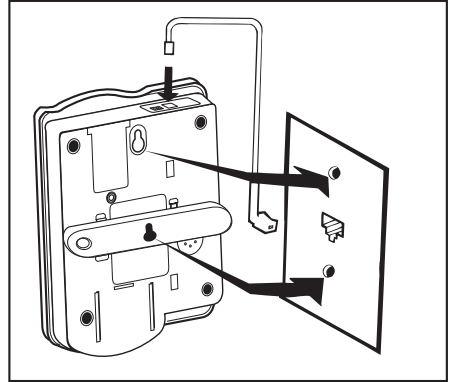

Fig. 6 – Wall mounting installation
3. Using the short modular cord, mount the phone as shown in figure 6.